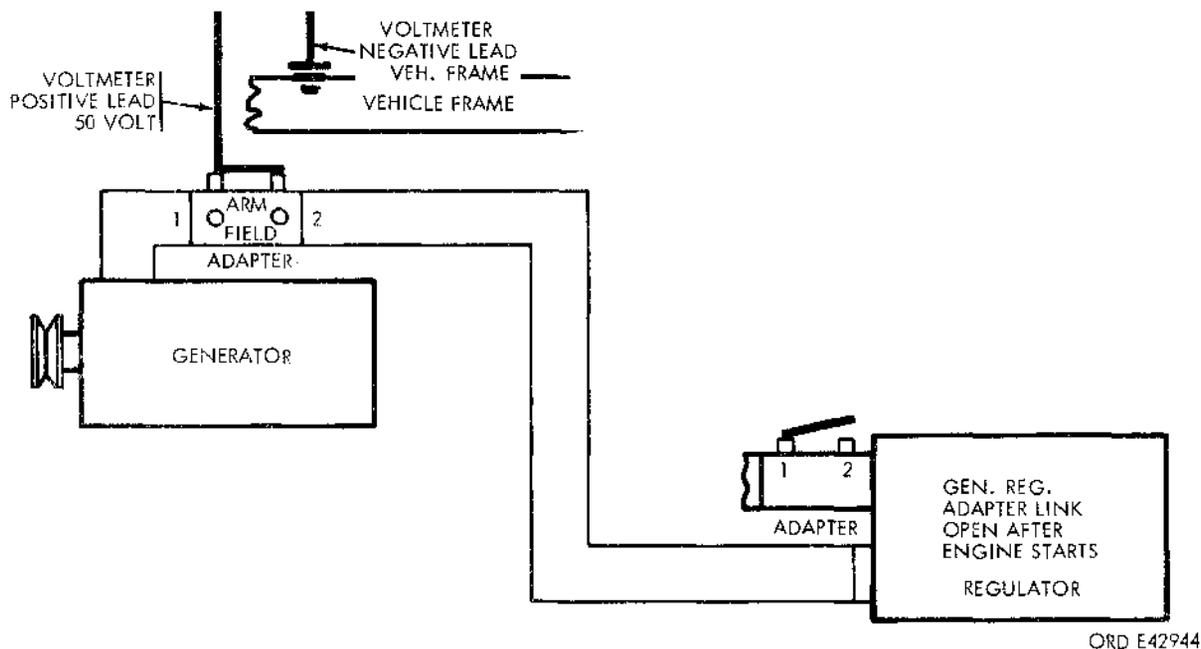

Figure 2-20. Regulator voltage control test hookup.
Prior to making the following regulator tests, the generator must be completely tested as in paragraph 2-24. The same adapters used in generator testing are required to test the regulator. The radio ground strap must be connected to insure the grounding of the regulator (fig. 2-20).
a. *Voltage Control Test* (Fig. 2-20).
(1) Select the 50-volt scale and turn the LOAD BANK SWITCH to OFF. The load bank control knob must be in the fully counterclockwise position.
(2) With the engine stopped, connect the meter to the adapters as shown in figure 2-18. Check to insure that cables are properly connected and not touching vehicle metal (fig. 2-20).
(3) With all adapter links closed, start the engine and observe the voltmeter reading. This should be 27.5 to 29 volts with the engine running at 1000 to 1200 rpm.
(4) Open the adapter link on the regulator and check the voltage on open circuit. With the engine at 1000 to 1200 rpm, the voltage should be 27.5 to 29 volts (fig. 2-20).
(5) If the voltmeter shows less than 27.5 volts, check the wiring between the generator and the